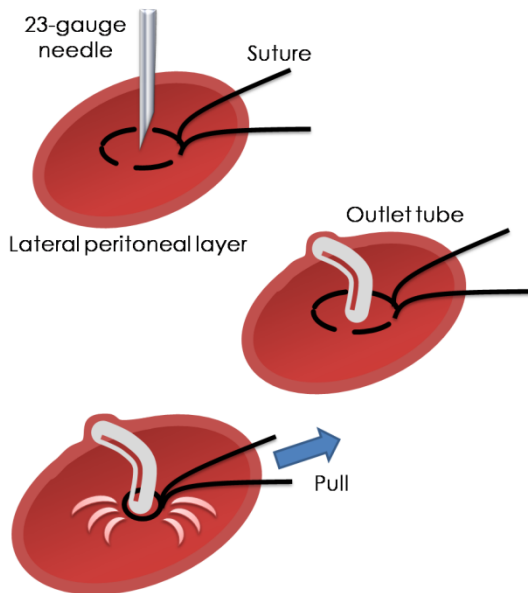

Fig.3B: Opening for catheter insertion and Purse-string suturing.
4. Insert a 23-gauge needle into the center of the purse-string suture. Remove the needle and insert the tube into the hole. ...**See Fig.3B**